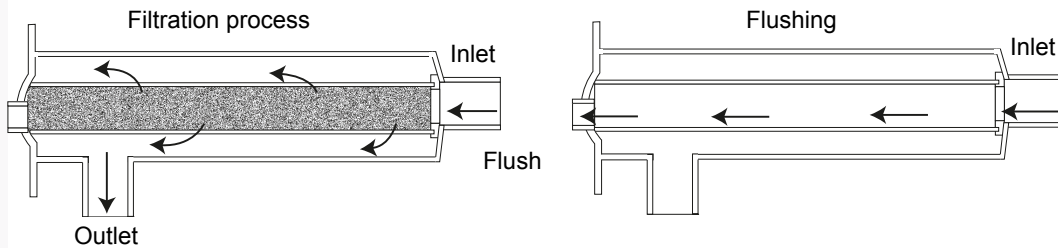

Fig. 6. Screen filter.
- **Screen-mesh filters** (Fig. 6) come in different shapes and sizes, ranging from 20 to 200 mesh. Their mesh can be made of stainless steel, polyester or plastic and can remove very fine sand particles or very small algae. They serve as backup filters to catch particles that get through other filters.